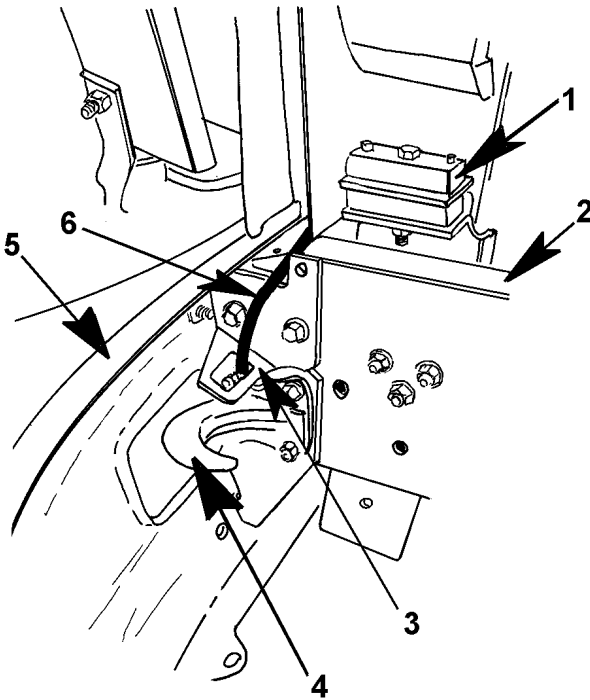

Figure 15 Torsion Bar Bracket (Drivers Side Shown)
4. Locate and replace the hood torsion assist bars in the frame torsion bar retainer bracket (Item 3, Figure 15) at each side of the frame rail.